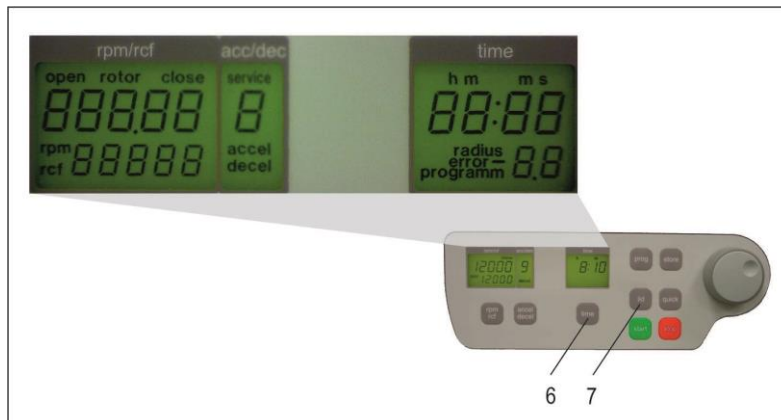

Figure 2
If the centrifuge is still turned off, press the keys, "time" (6) and "lid" (7) simultaneously, turning on the main switch of the centrifuge. Now release both keys. As a result, a display test is administered for approx. 5 seconds. All possible indications will appear at the same time (see Figure 2).
Figure 2 *right*